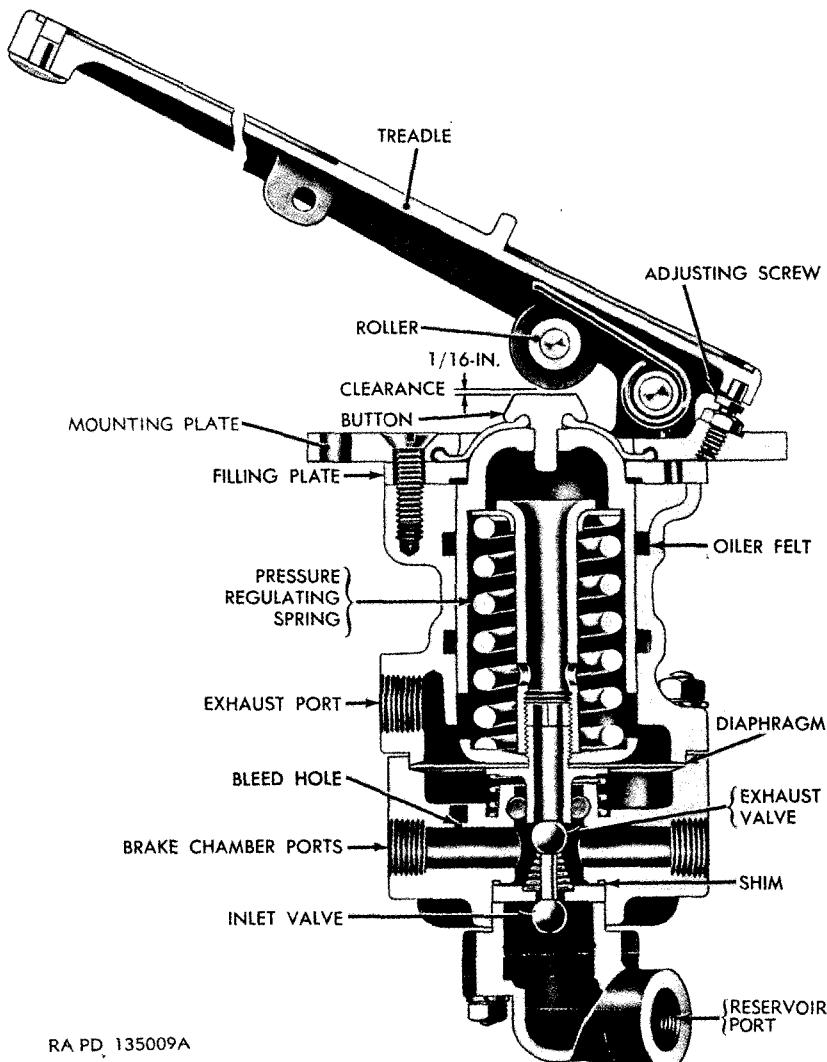
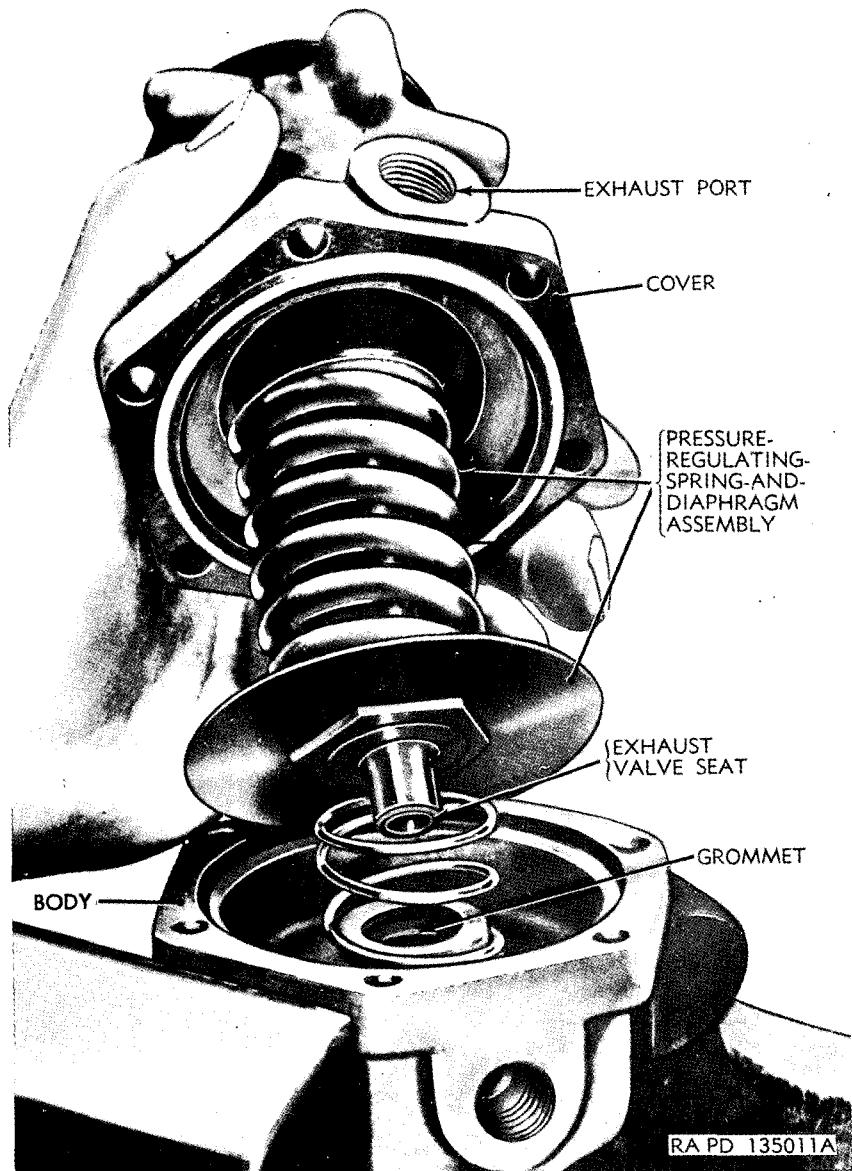
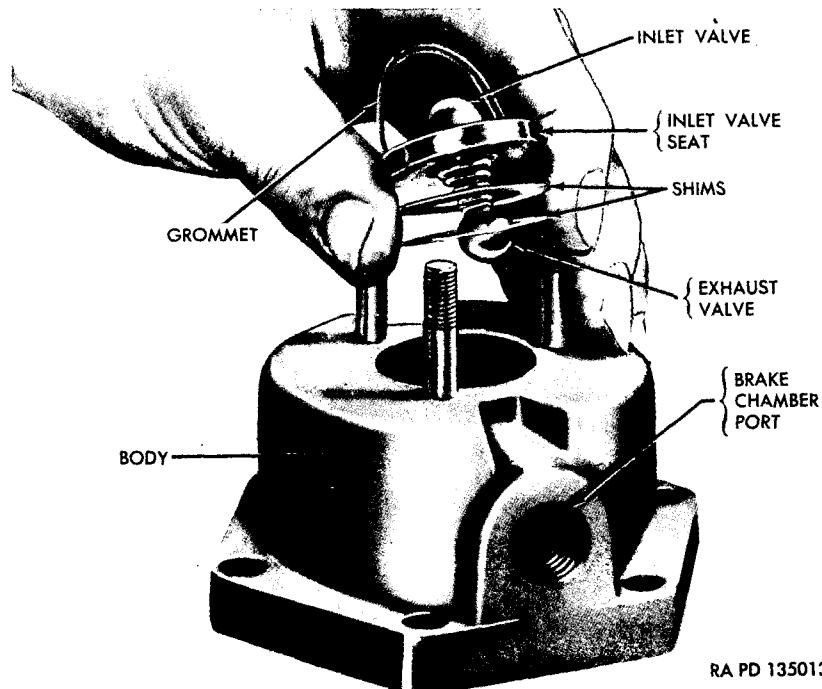
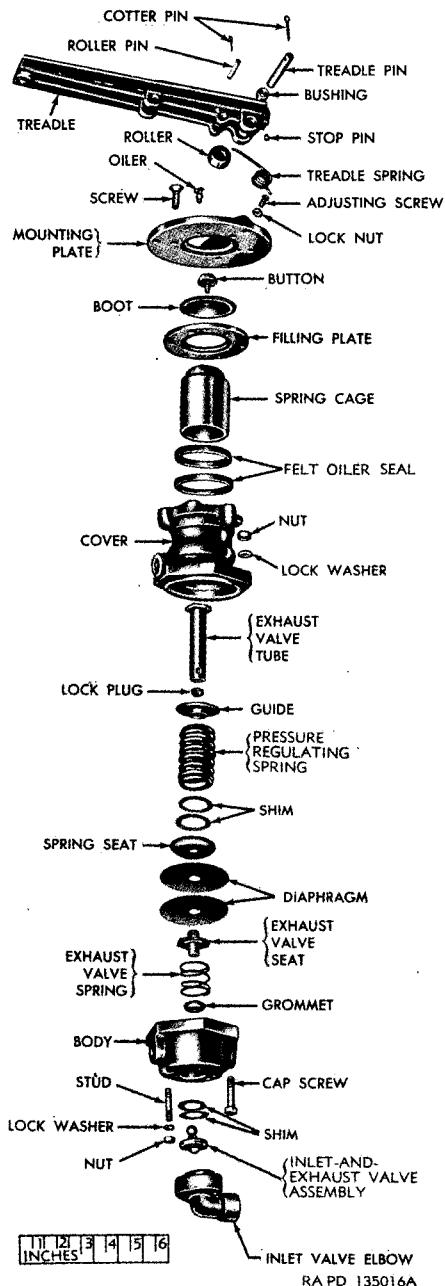

Figure 88. Sectional view type D brake valve.
Figure 90. Removing cover from body.
Figure 92. *Removing inlet-and-exhaust valve assembly.*
Figure 95. Type D brake valve—exploded view.
b. Operation (fig. 88).
- (1) Movement of the treadle exerts a force on top of pressure-regulating spring and diaphragm. As diaphragm moves downward, the exhaust valve seat makes contact with exhaust valve and closes it. Continued movement opens inlet valve and admits reservoir air pressure to brake chamber ports, thence to
c. *Remove Mounting Plate and Filling Plate* (fig. 95). Remove three countersunk-head-machine screws attaching mounting plate to body. Lift off mounting plate and filling plate.
d. *Remove Pressure-Regulating-Spring-and-Diaphragm Assembly*. Remove six nuts, lock washers and cap screws attaching cover to body (fig. 95). Remove cover and lift out pressure-regulating-spring-and-diaphragm assembly (fig. 90). Do not disassemble the pressure-regulating-spring-and-diaphragm assembly unless the diaphragms or the exhaust valve seat have to be replaced. If the diaphragm assembly is disassembled, extreme care must be used to be sure the same shims are replaced during assembly. Lift out exhaust valve spring and pull rubber grommet from body (figs. 90 and 95).
remove boot (fig. 95). Remove two felt oiler seals from cover (figs. 91 and 95).
f. Remove Inlet-and-Exhaust Valve Assembly. Remove three nuts and lock washers attaching inlet valve elbow to brake valve body (fig. 95). Lift rubber grommet, inlet-and-exhaust valve assembly, and shims out of brake valve body (figs. 92 and 95). Do not disassemble the inlet-and-exhaust valve assembly.
a. *Install Pressure-Regulating-Spring-And-Diaphragm Assembly* (fig. 95).
- (1) Install a new grommet in body. Position exhaust valve spring in body. Apply a thin coating of automotive and artillery grease on the top and bottom of the diaphragms.
- (3) Position filling plate on spring cage, being sure the recessed side is against top of the spring cage. Position rubber boot on top of spring cage, drive button into place, and push spring cage into cover (fig. 91). Place pressure-regulating-spring-and-diaphragm assembly in position in body and carefully push into place so that the exhaust valve seat properly enters grommet in the body (fig. 90). Position cover and spring cage on top of body so that the exhaust port in the cover is in line with brake chamber port in body closest to the bleed hole (fig. 88). Install and securely tighten six cap screws, lock washers, and nuts attaching cover to body (fig. 95).
b. *Install Mounting Plate* (fig. 95). Position mounting plate on top of filling plate so that treadle will extend over the exhaust port in the cover. Align holes in mounting plate, filling plate with holes in cover, and install machine screws.
c. Install Inlet-And-Exhaust Valve Assembly. Install shims in recess at bottom of body and install inlet-and-exhaust valve assembly in the body with spring and exhaust valve entering the body first. Position grommet in place against inlet valve seat (figs. 92 and 95). Position inlet valve elbow, as marked before disassembly (par 67a), and install three lock washers and nuts (fig. 95). Tighten securely.
d. Install Treadle (fig. 95). Position treadle spring so the short, pro-
jecting end of spring engages the hole near the adjusting screw in the mounting plate. Position treadle so that the long, projecting end of spring is at the side of roller and the fulcrum pin holes in mounting plate and spring are alined. Install treadle pin, being sure it passes through the coiled part of the spring. Aline cotter pin hole in mounting lug with hole in pin and install cotter pin. Adjust the adjusting screw until there is $\frac{1}{16}$ -inch clearance between the roller and the button (fig. 88).
- (1) If brake valve does not release promptly insufficient opening of the exhaust valve is indicated. This can be caused by the filling plate being installed upside down (par. 69a(3)) or by insufficient shims between valve seat and body of valve.
- (2) If brake valve does not fully release, check clearance between treadle roller and button (fig. 88) on top of spring cage. Clearance must be one-sixteenth inch. If clearance is not correct, add additional shim or shims between inlet valve seat and body of valve (fig. 88) to increase opening of exhaust valve.
- (3) If brake valve does not apply promptly, check for proper clearance between treadle roller and button on top of spring cage ((2) above). Remove shims between inlet valve seat and body of valve (fig. 88) to decrease exhaust valve clearance. This will increase inlet valve opening.
- (4) If brake valve does not graduate the delivered pressure promptly, it indicates an obstruction in bleed hole to cavity immediately below the diaphragm. Bleed hole (fig. 88) should be $\frac{1}{16}$ -inch diameter and must be unobstructed.